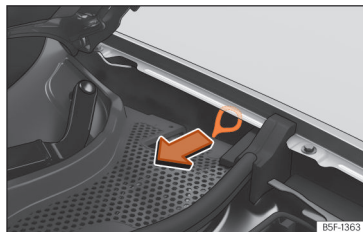

Fig. 62 Between the left wing panel and the engine bonnet hinge: Charging connector manual release mechanism puller.
The puller for the manual release mechanism is on the left hand side of the engine compartment, above the charging socket >>> **Fig. 62.**
- Pull the puller »» Fig. 62.